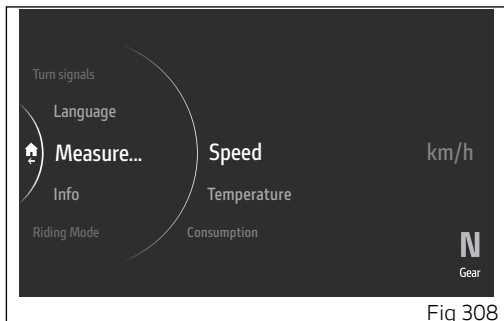

Fig 308
- Select the "Speed" item and press ENTER (Fig 308).